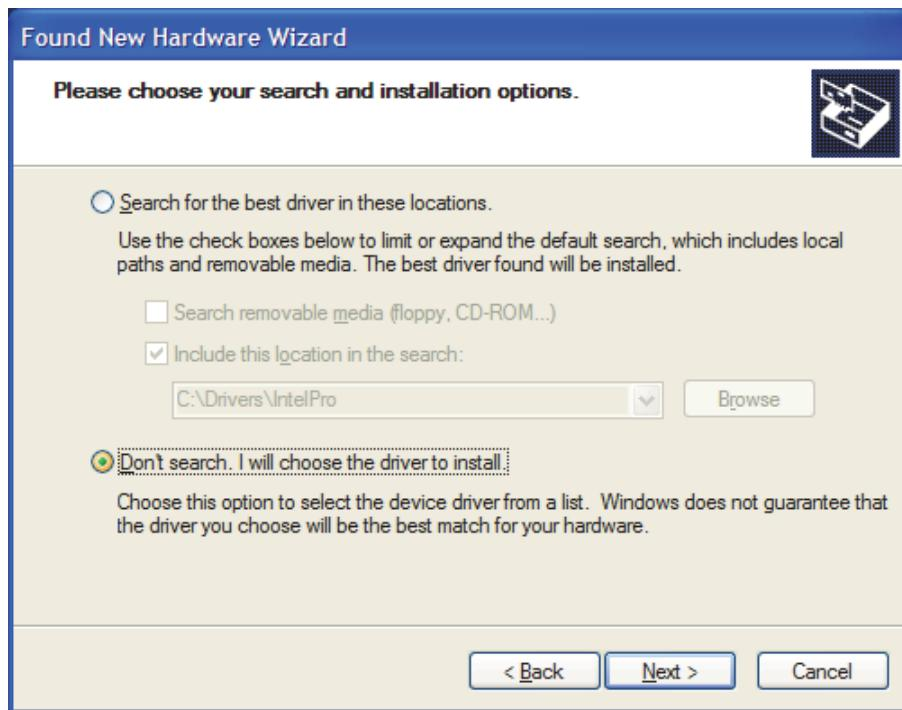

Figure 5-7. Found New Hardware Wizard - Will Choose Driver
4. Select **Don't search, I will choose the driver to install** and select **Next**. See Figure 5-7.